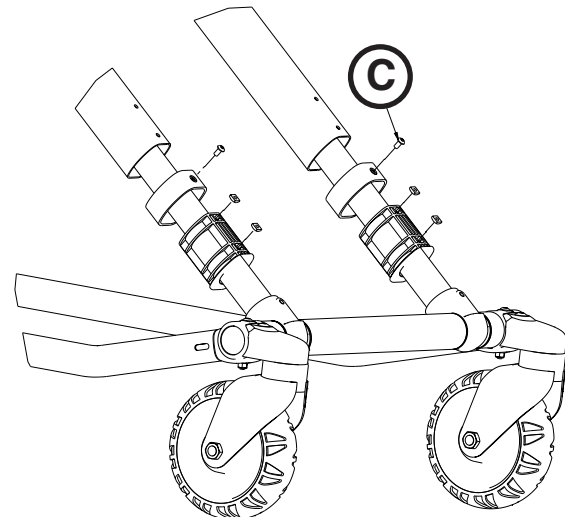

Figure 80
3. Using a T25 Torx driver, remove the two button head cap screws (C) that secure the tube bearing (Figure 80).
2. Using a T25 Torx driver, remove the two button head cap screws that secure the tube bearing (see Figure 80 on page 75).